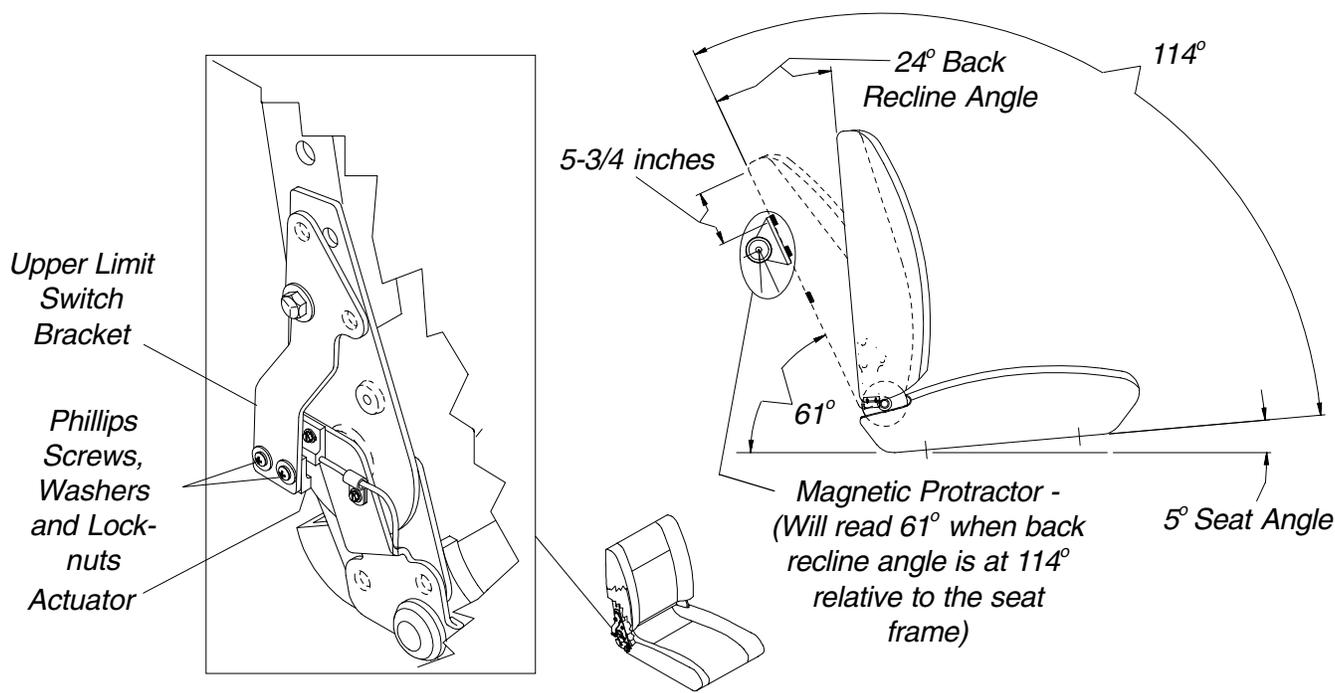

FIGURE 13 - ADJUSTING LIMIT SWITCH
**ADJUSTING LIMIT SWITCH (FIGURE 13)**
*NOTE: To determine 114° back angle relative to the seat frame, place a magnetic protractor (available at any hardware store) on the back as shown in FIGURE 13 and adjust the back until the magnetic protractor reads 61°.*
- B. Loosen, but do not remove, the two (2) phillips screws, washers and locknuts that secure the actuator to the upper limit switch bracket.
- D. Only tighten the two (2) phillips screws, washers and locknuts that secure the actuator to the upper limit switch bracket until the actuator does not move.